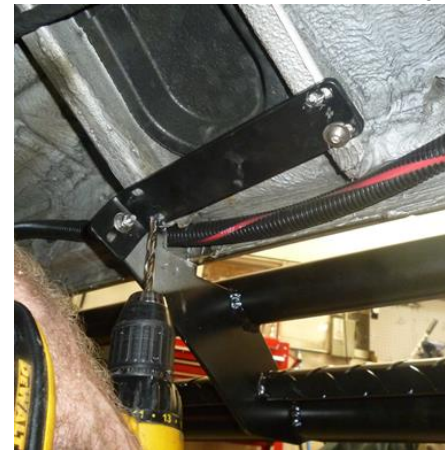

Figure 10: 90 Degree Bracket Installation onto Van
- Align the slots on the 90 degree bracket with the underside of the angled, B-pillar bracing on the vehicle and fasten using self-tapping bolts into the van as shown in Figure 10 (four screws total).